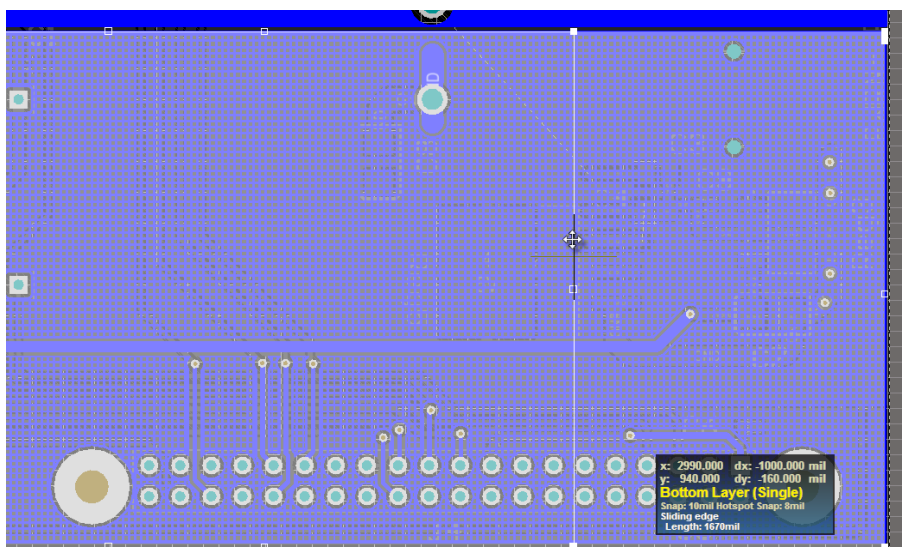

Figure 15. Moving the right edge of a polygon using the Sliding Edge mode
47. Click and hold the left mouse button; the cursor will become a crosshair and the *HUD* will show that the *Sliding Edge* mode is active as shown in Figure 15.